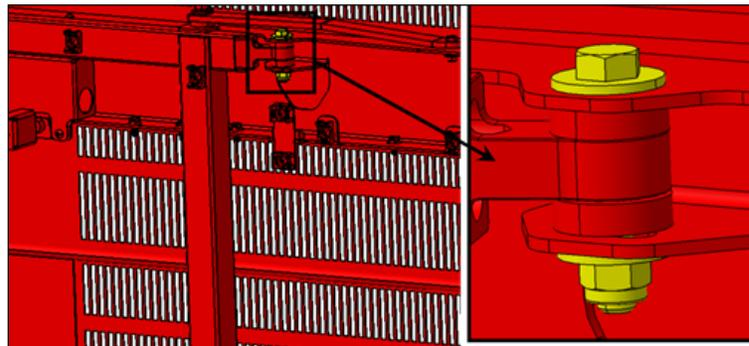

FIGURE 7
6. If the longitudinal position is out of tolerance, adjust using the adjustment provided on the inner side of the door, at the upper attachment point of the arm on the door (FIGURE 7).